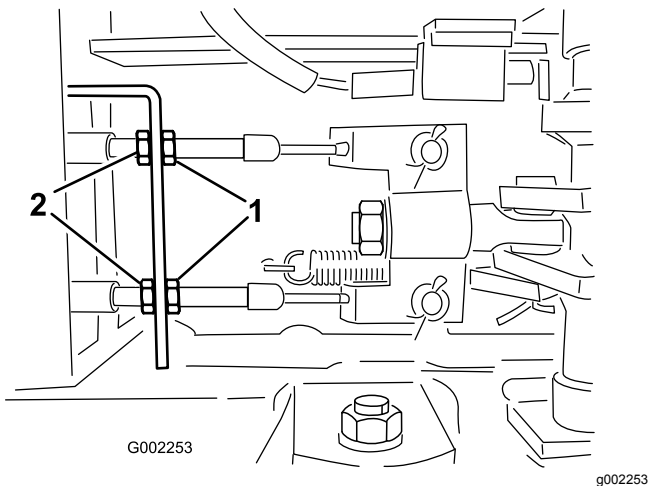

Figure 90
5. Loosen the front jam nuts on the brake cables under the front end of the sprayer (Figure 90).
6. Tighten the rear jam nuts equally until the brake pedal moves between 1 to 2 cm (1/2 to 1 inch) before you feel resistance (Figure 90).